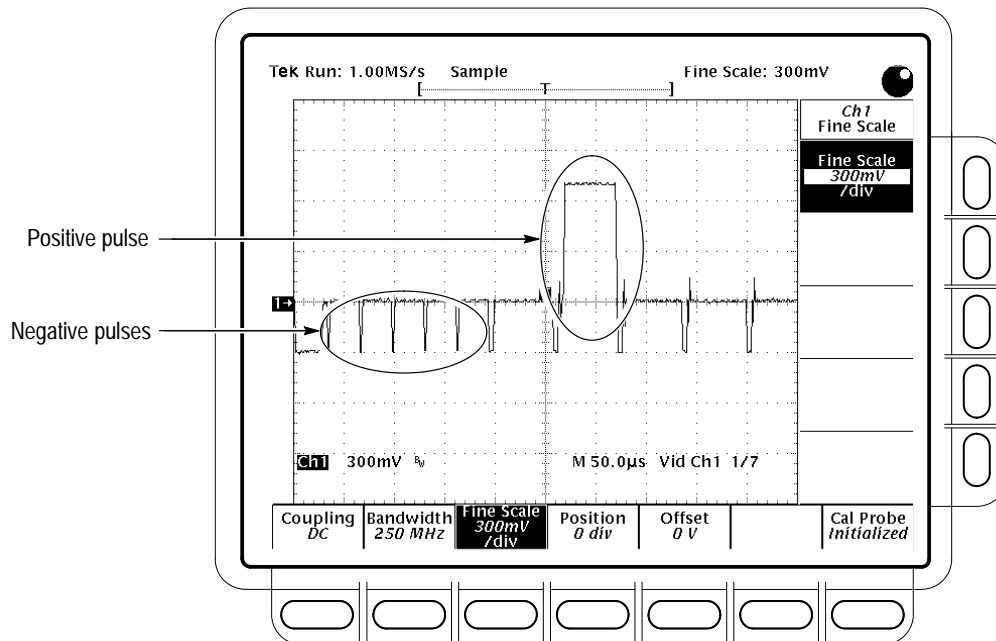

Figure 1–28: Triggered Signal Range Test – 300 mV
- m. CONFIRM that the **TRIG'D** LED stays lit and that the waveform on screen is stable. i.e.; does not move horizontally or vertically. Also, CONFIRM that the waveform on the screen has one positive pulse and a number of negative pulses. See Figure 1–28.
- o. CONFIRM that the **TRIG'D** LED stays lit and that the waveform on screen is stable. i.e.; does not move horizontally or vertically. Also, CONFIRM that the waveform on the screen has one positive pulse and a number of negative pulses. See Figure 1–29.